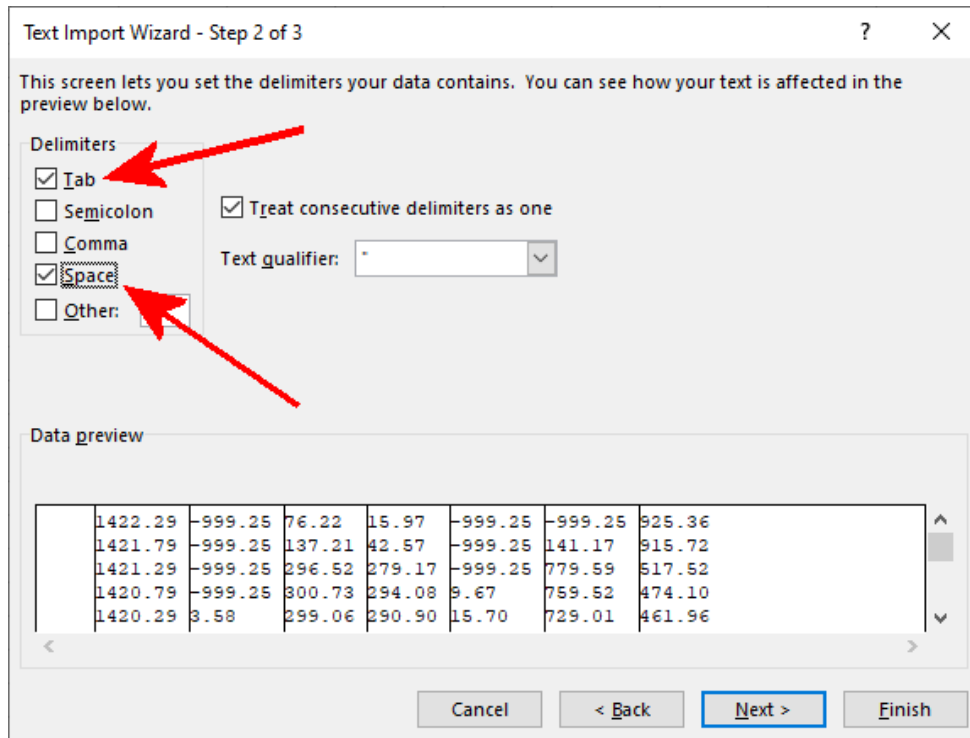

Figure 4
- Check the *Tab* and *Space* options within the next menu. (Figure 4). Notice how the data is now grouped into columns within the *Data preview* window. If the data is not properly grouped into columns, you may need to determine what the proper column delimiter is by pressing the *Back* button and examining the text within the *Preview of ...* window and specifying the correct *Delimiter*. Once everything looks correct, select the *Next* option.